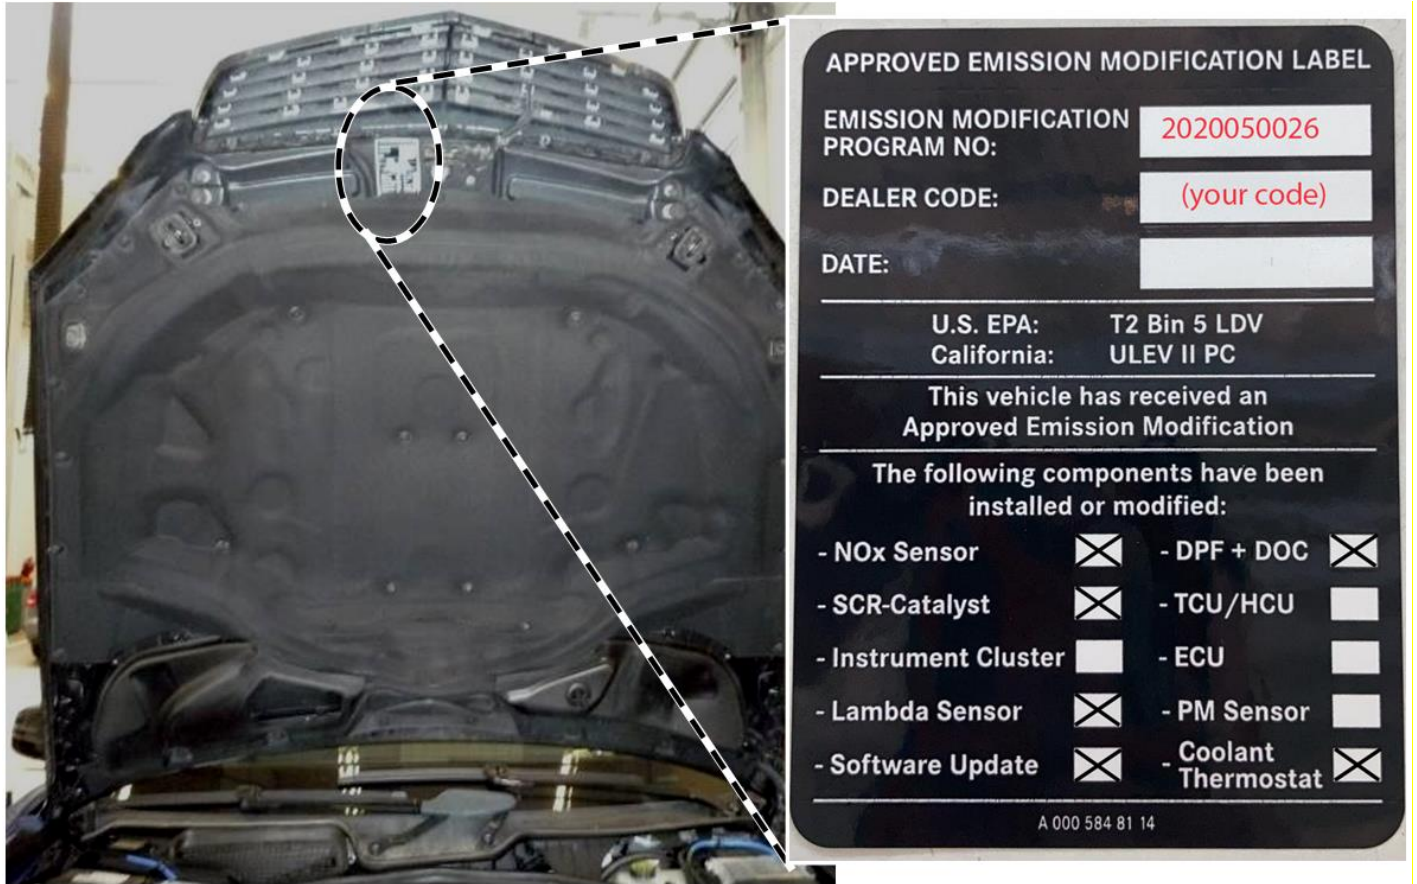

Figure 4
13. Clean the bonding area surface of the hood and apply the adhesive label (**Figure 4**).